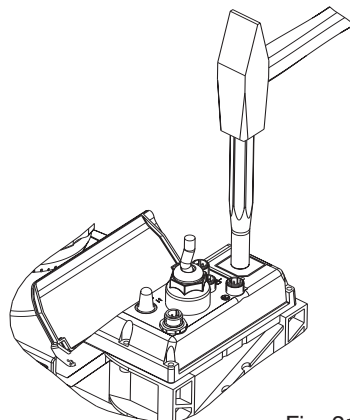

Fig. 21
- ▶ Place the S1Ca on a firm surface with the relay opening press-out section at the top (see fig. 21)